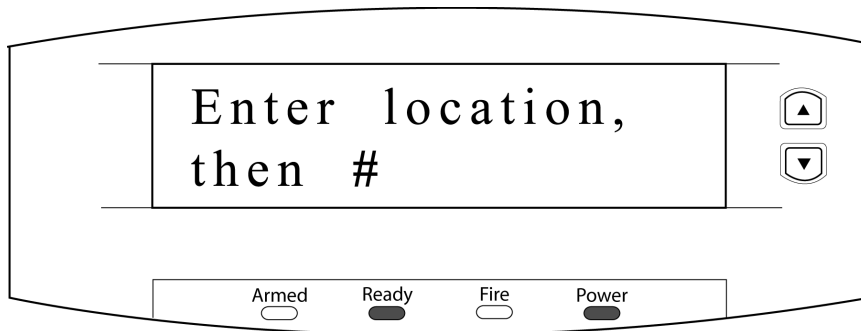

Figure 5: Alarm Panel - Enter Location
4. Select the **0** key followed by the **#** key. The alarm panel then prompts for the location (see Figure 5). Each “location” on the alarm panel refers to a different task. Each location may then have a number of segments that each have their own purpose within the individual location.
2. Select the ***** key to save the selection. Since Location 207 only has one segment to configure, the LCD returns to the Alarm Panel - Enter Location screen (see Figure 5 on page 3 where the LCD will show the last location entered in the lower right corner).